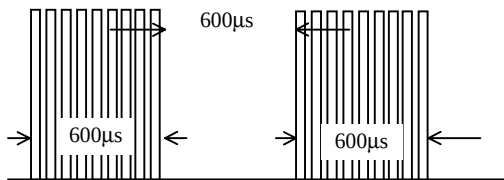

Fig 1. Burst Wave
- (1) Measuring place Indoor without extreme reflection of light.
- (2) Ambient light source... Detecting surface illumination shall be 200 ± 50 Lux under ordinary hite fluorescence lamp of no high frequency lighting.
- (3) Standard transmitter ... Burst wave indicated in Fig 1. of standard transmitter shall be arranged to 50mVp-p under the measuring circuit specified in Fig 2.